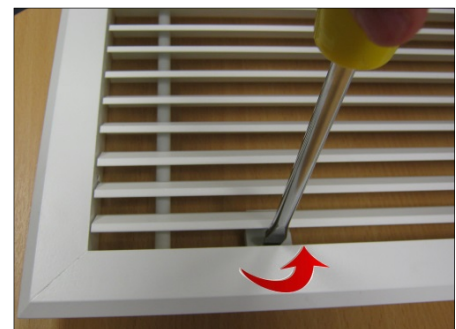

Fig 6
**Step 1** Open the hinged inlet grille using a flat bladed screwdriver to release the quarter turn fasteners (see Fig 6). There are two fasteners on the C1000R unit and three fasteners on C1500R and C2000R units. Before lifting the grille frame into position, remove four (six on C2000R) M6 bolts fitted on the inside edge of air curtain.